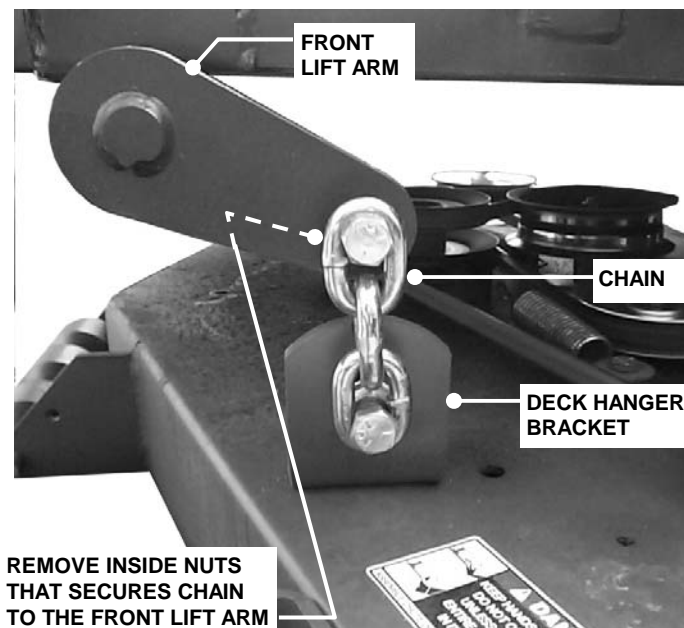

FIGURE 4.10
4. Remove inside nuts that secure chain to front lift arm. See Figure 4.10.